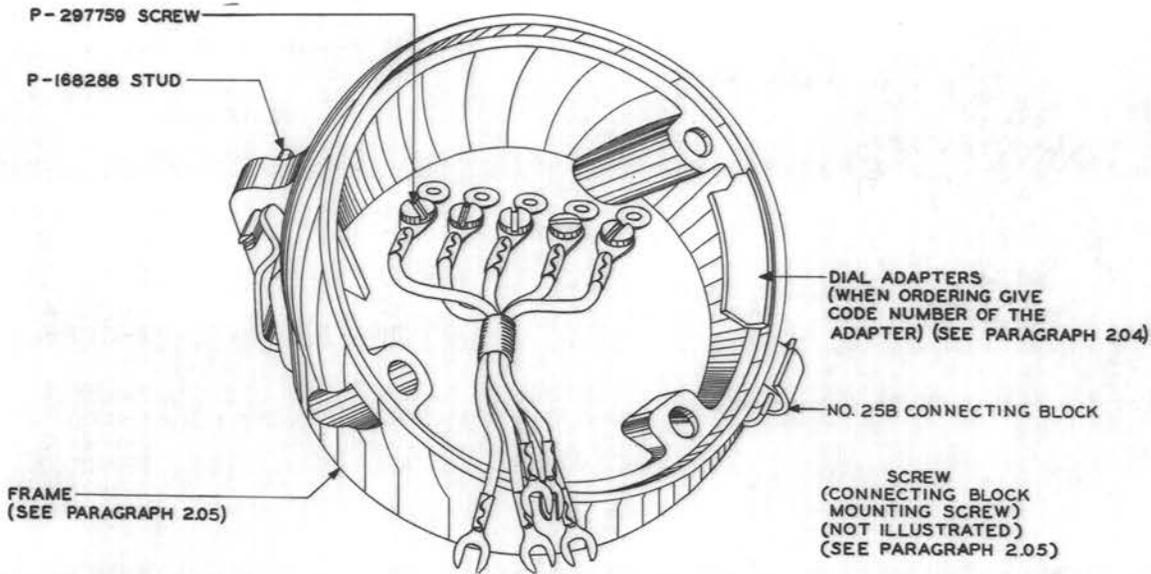

Fig. 11 - 6044-type Dial Mounting
4. To add the No. 6044B dial mounting and adapter (2.04 and Fig. 11).